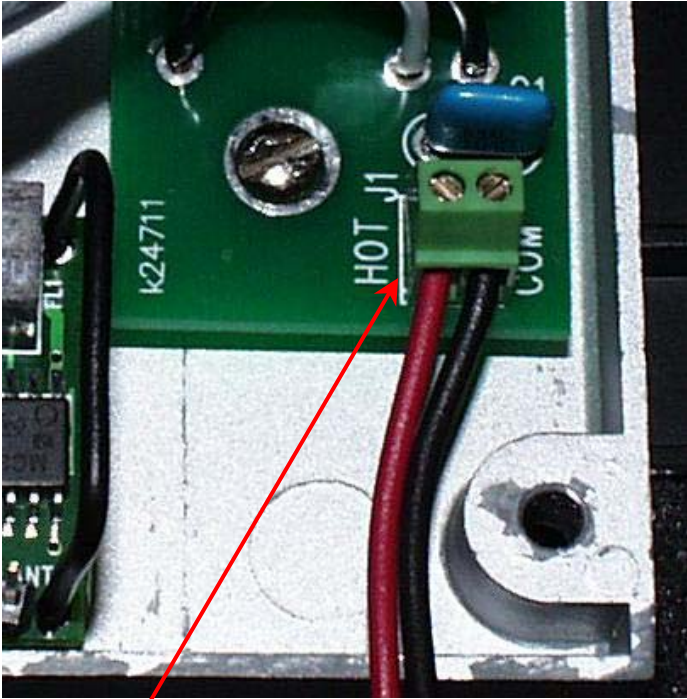

FIGURE 8
Step 11: Power Connection (Figure 8 & 9)
Attach power to the Crane at the driver card as shown in figure 8. Be certain the GND or Common is attached to the U terminal of the power source. Route the power wires down through the base, attach the antenna to the Mini Commander, and secure the base with the original screws.